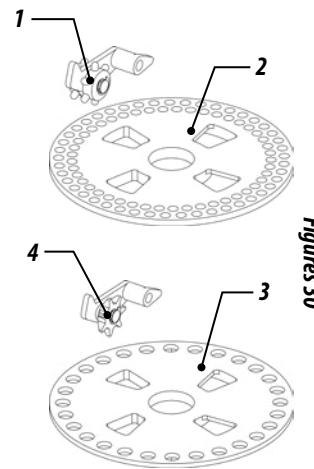

Figures 29
- 5- To distribution disc of 5.50 mm, use a plastic ring of 3.00 mm. Figures 29.